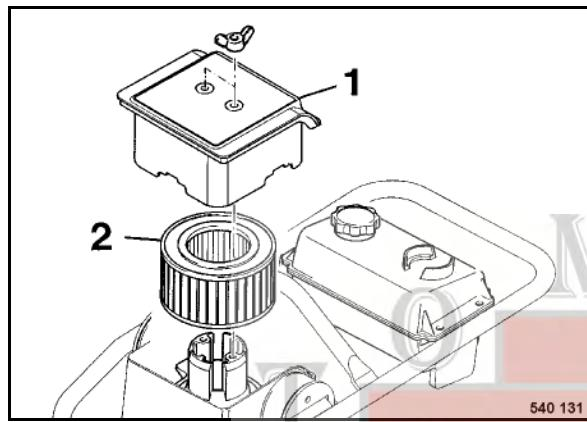

Fig. 59 □
- Remove cover (Fig. 59), take filter cartridge (2) carefully out.